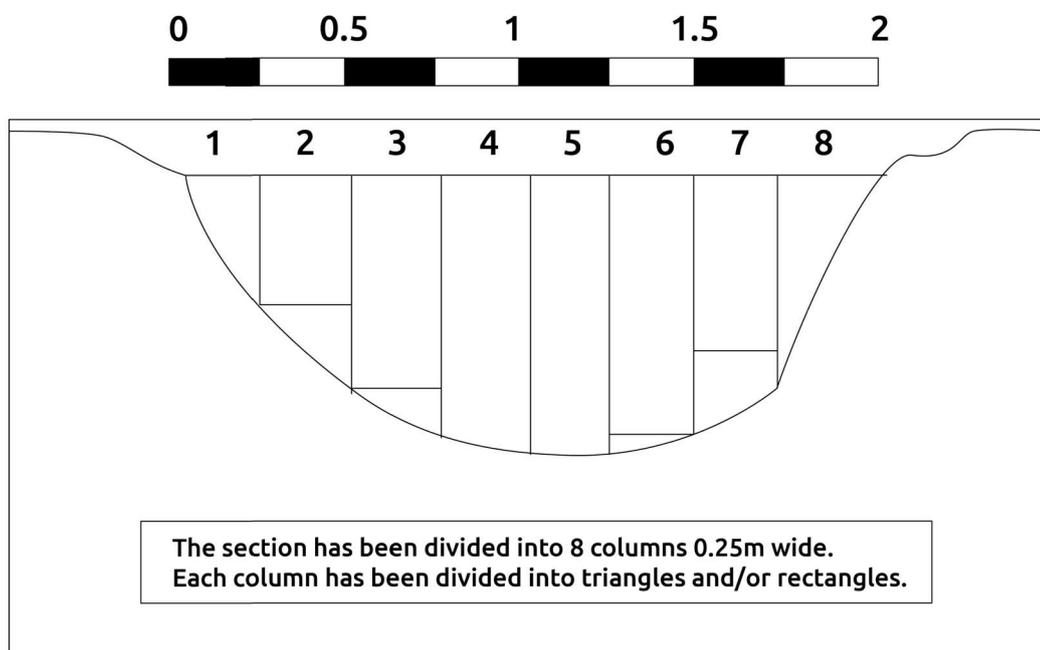

Figure 12 Constructing Water Columns in a Stream Cross-Section
To do the job properly however, it would be necessary to make a series of average flow velocity measurements, and this would require the channel cross-section to be subdivided into a series of columns like those in Figure 12.
Figure 12 shows a stream cross-section which is 2 m wide. The section has been subdivided into columns (**WATER COLUMNS**) 0.25 m wide. According to the geometry of the channel, each column consists of a triangle and/or a rectangle. The area of each column has been calculated using the techniques described earlier and using the scale provided on the diagram. At an appropriate point within each column, the flow velocity would be measured with an impeller. A set of hypothetical velocities and the area measurements are displayed in Table 1, along with the calculations necessary to determine **DISCHARGE (Q)**.